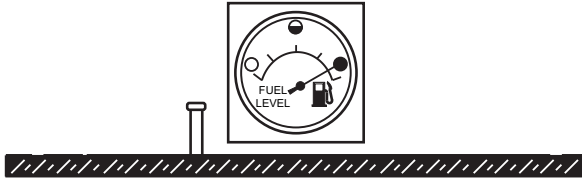

Figure 32. Full Fuel Tank
- NEVER overfill the fuel tank** — It is important to read the fuel gauge when filling the trailer fuel tank. **DO NOT** wait for fuel to rise in the filler neck (Figure 32).